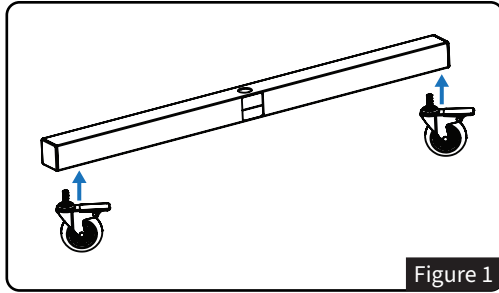

Figure 1
- Press (2) Casters (Part A) into the bottom of the Base Tube (Part B). See *Figure 1*.